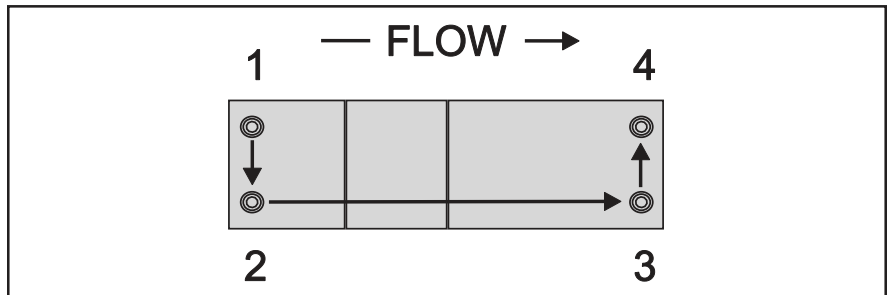

Figure 2-6 Mounting Screws Torque Pattern\*
- Using a torque wrench and a metric hex key, tighten the screws to the torque value as described in Table 2-2 and Torque Pattern Figure 2-6.